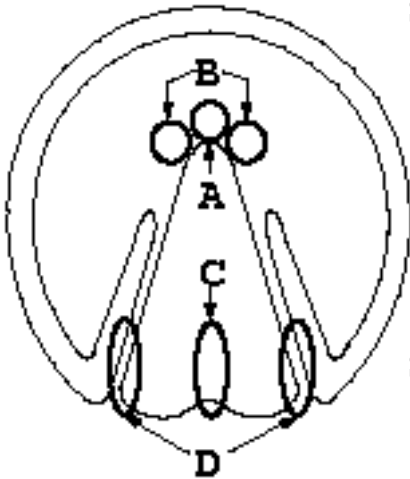

Figure 2.1
Step 1: Find the frog/sole junction at the frog apex. (Figure 2.1-A & B) (Probe if necessary.)
Step 2: Find the true frog base at the *frog buttress* and *central sulcus* (Figure 2.1-C & D) (Probe if necessary.)